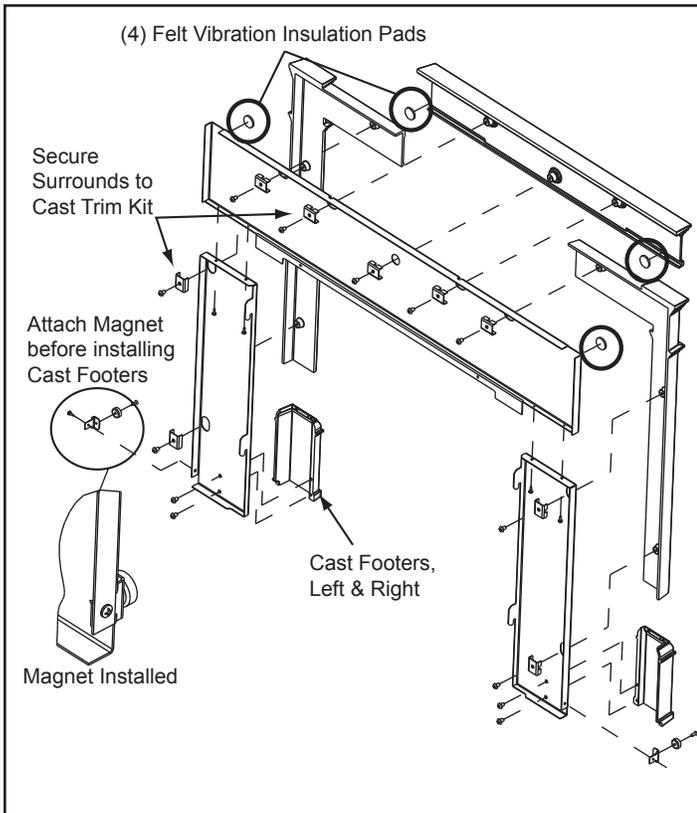

Figure 21.1
**Included in Surround Kit:** (2) side pieces, left and right; (1) top piece; (1) fastener package; (1) heat deflector.
**Included in Cast Trim Kit:** (2) cast trim legs, left and right; (1) cast trim header; (2) cast trim footers, left and right; (1) fastener package.
3. Using a 4 to 6 inches long Phillips head screw driver attach the side surrounds to the top surround using (2) #8 sheet metal screws on each side provided with the kit
4. Place the peel and stick round felt vibration insulation pads on the front side in each corner of the top metal piece and on the back side in each corner of the top cast piece. **Figure 21.1.**